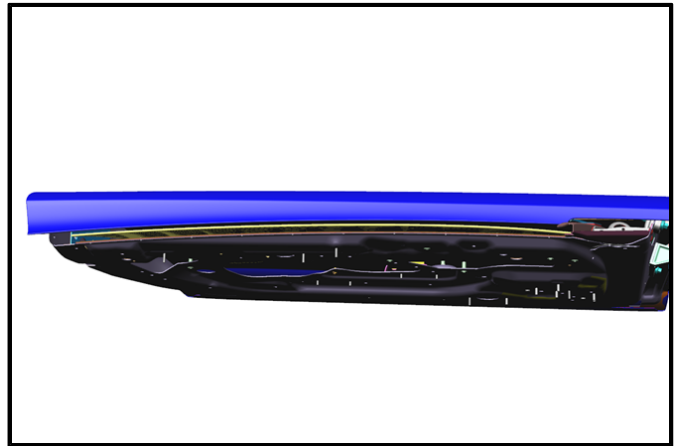

Figure 3
5. Adjust the door glass so that it is positioned in the center of the door "letterbox." (Refer to Figure 3.)